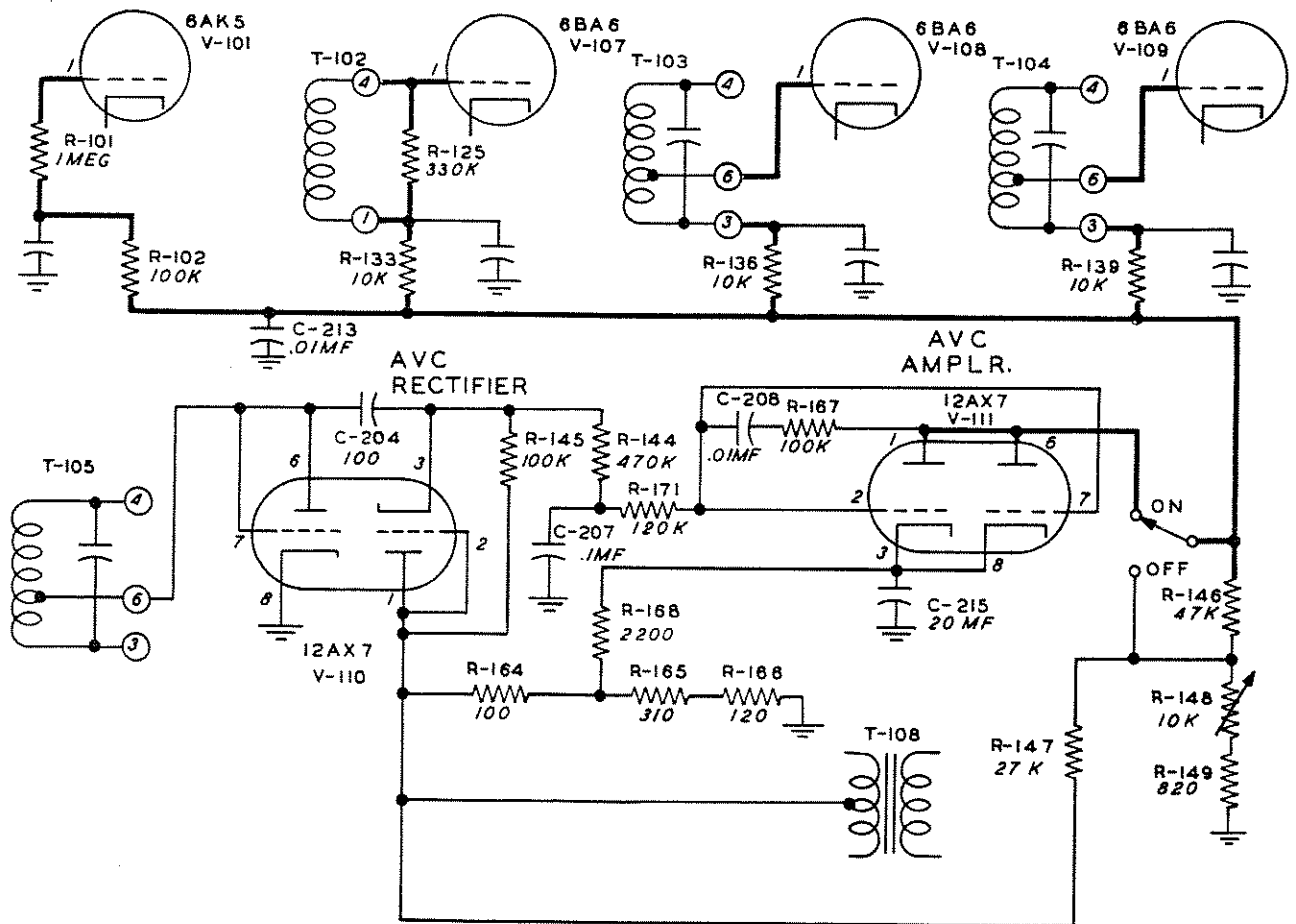

Figure 4-5. 51J-2 A.V.C. Circuit
4.2.11. AUTOMATIC VOLUME CONTROL. - The problem of blocking that is created by strong signals or heavy static is eliminated by use of an amplified avc system and a low impedance avc line. Refer to figure 4-5. The second triode section of V110 is used as an avc rectifier to produce control voltage for avc amplifier tube V111 which is a dual triode with both sections tied in parallel. The avc voltage that is applied to grids of the controlled tubes is produced when plate current flowing through avc amplifier tube V111 causes a voltage drop across resistor R146. Plate voltage for the avc amplifier tube is obtained from the voltage drop across resistors R164, R165 and R166, which are in series with the center tap of the power transformer to ground. However, tube V111 will not draw plate current when there is no signal input to the receiver because of approximately 11 volts of bias that is placed upon its grids by the voltage drop through R164. This bias voltage for V111 is taken from the end of R145 through which the rectified carrier flows in opposition to the bias voltage. Thus, when the rectified carrier becomes strong enough to overcome the bias voltage on V111, the tube will draw plate current and produce a voltage drop across R146, thereby producing avc voltage in proportion to the strength of the received signal. The bias on the grids of V111 is high enough to produce a delay in the generation of avc voltage and thus allows the receiver to function at full sensitivity on weak signals. Resistor R144 and capacitor C207 form the time constant in the avc circuit. R171, C208, and R167 are used in a degenerative circuit to prevent the avc amplifier tube from responding to low audio frequencies. Avc is turned off by opening the plate circuit of avc amplifier tube V111. Tubes controlled by avc bias include r-f amplifier V101, and the 500 kc i-f amplifier tubes, V107, V108, and V109.